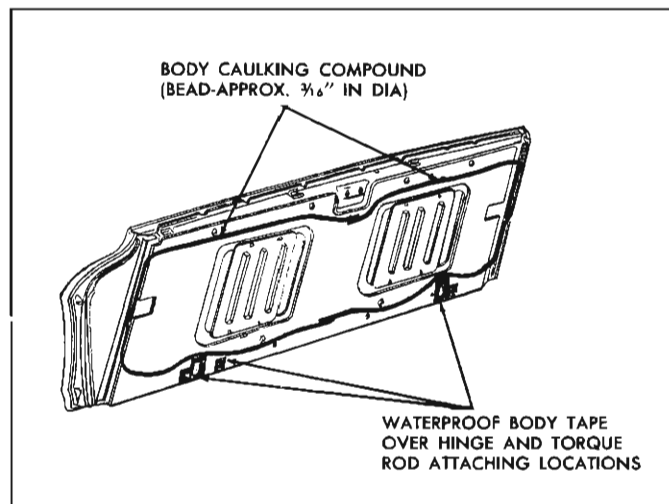

Fig. 43—Tailgate Inner Panel Sealing
3. Apply a bead of body caulking compound (approximately 3/16" diameter) to tail gate inner panel (fig. 43).